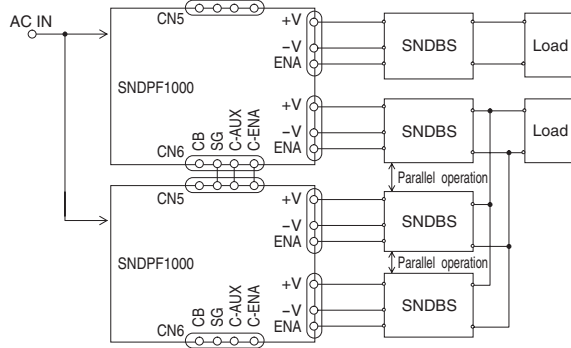

Fig.5.2 Synchronized start up connection Example
- Make a connection in Figure 5.2, ENA signal to be synchronized, even if you do not parallel operation is possible.